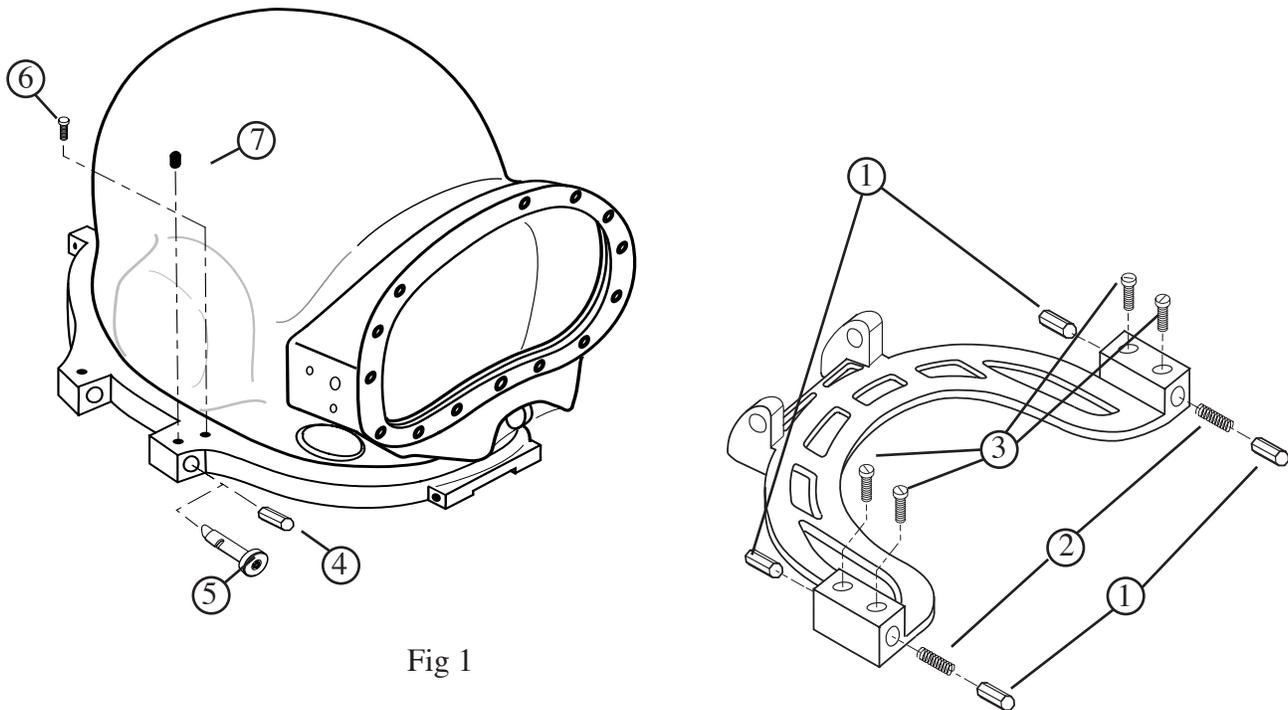

Fig 1
- 1) See Figure 1. Remove all of the four way locking mechanisms parts. This is done by taking out the release pin screws (6) on the helmet ring and catch pin screw (3) on the locking collar. The release pins (4) catch pins (1) and springs (2) may now be removed. These parts are not used with the new system but must be returned to the dealer along with the serial number of your helmet to receive the sealed pins free of charge.
- 2) The front lugs on the ring are predrilled for the sealed pins. These holes have rubber plugs (7) which should now be removed, cleaned and reinstalled with a small amount of silicone sealant *in the middle holes where the release pin screw (6) was removed*. Two additional plugs come with the kit. Install these in the collar holes where the catch pin screws (3) were removed.
- 3) Clean out the hole that the plug was removed from. The sealed pull pins (5) do not have a left or right. They are slotted on both sides which allows them to be used on either side of the helmet. Install the pin assemblies so that the longest side of the plunger is on top. This way the collar pushes